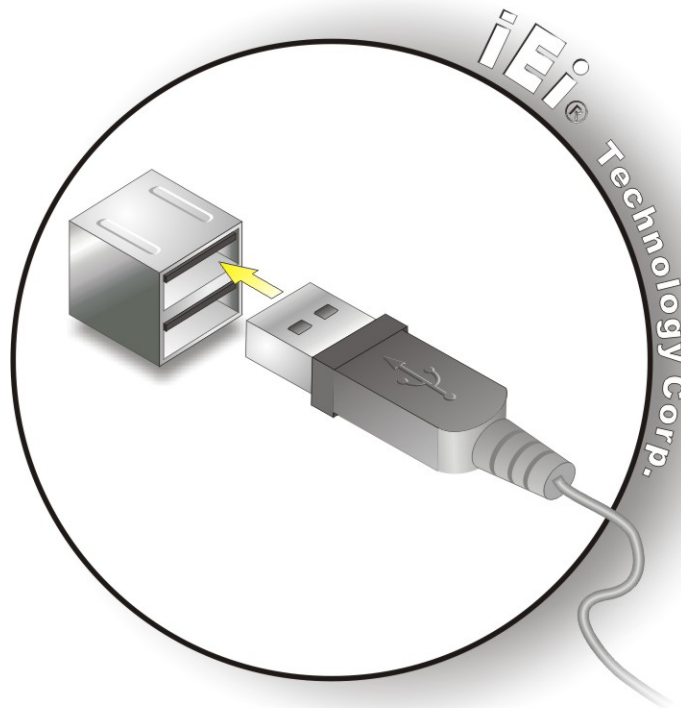

Figure 3-25: USB Device Connection
Step 2: Align the connectors. Align the USB device connector with one of the connectors on the bottom panel. See **Figure 3-25**.